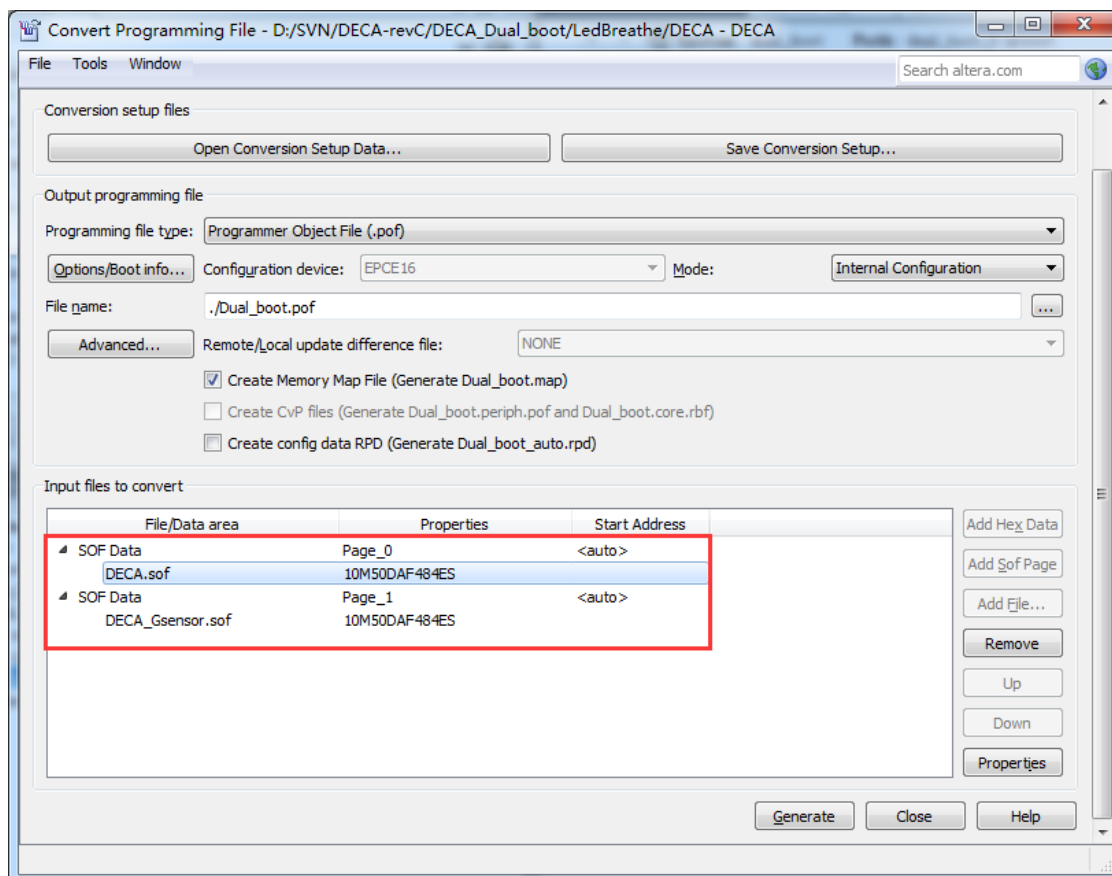

Figure 8-15 Add sof Page and sof Data
8. Click **Add Sof Page** to add Page_1 and click **Add File**, Select the DECA_Gsensor.sof of DECA_Gsensor demo to be the .sof data of Page_1 as shown in **Figure 8-15**.